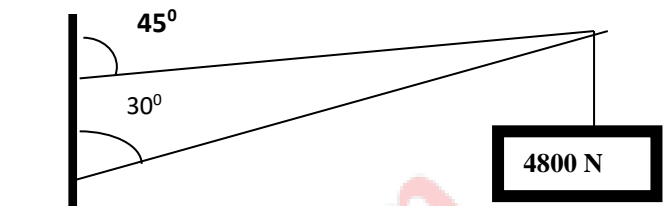

Fig2
(1) Find the forces in the Jib and tie when a load of 4800 N is hung from the crane as figure 2.